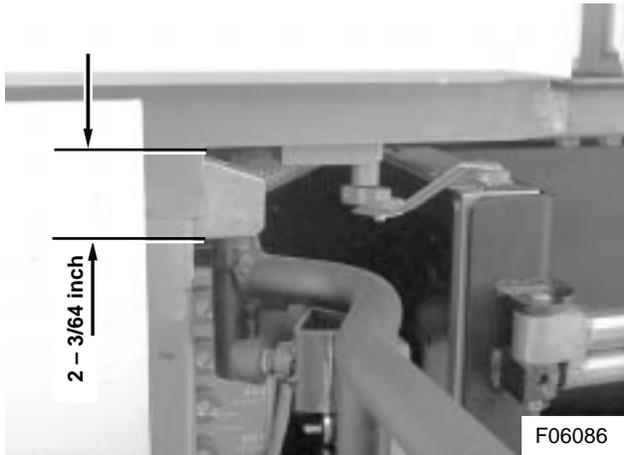

Figure 31: Upper pantograph hinge and installation distance
- 2) Open the lift door. Adjust the pantograph mechanism until the distance from the bottom of the upper hinge to the upper compartment channel is 2-3/64 inch (52 mm). See Figure 31. With the hinges properly adjusted, tighten the hinge bolts to a torque of 15 ft.lbf (20 Nm).